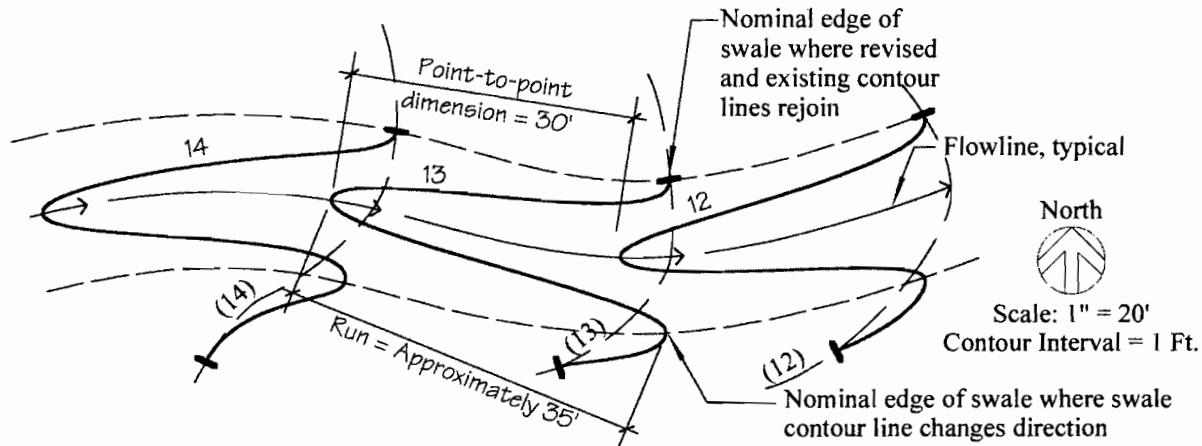

Figure 35. Example — Designing a Swale to a Specified Depth for a Swale Having Undefined Boundaries
The *difference formula* $D = G L$ is used to find out how high or deep a site feature is. The grade and length of run must be known, or be determinable. See the following example and Figure 35.
Figure 35 shows a swale that has an undefined boundary. This is typical of horseshoe swales and swales located away from hardscape or other built site features. In this case, it is more difficult to establish the run because the edges are amorphous. That is, they do not provide a defined point of reference to scale to. Nonetheless, by identifying the point where the contour lines change direction, or where they rejoin existing contour lines, it is possible to establish a "nominal" boundary or edge upon which to scale the run.
Step 2. Scale run of the contour line in swale. As mentioned above, this will be an approximation. The assumed approximate run here is 35 feet as shown in Figure 35.